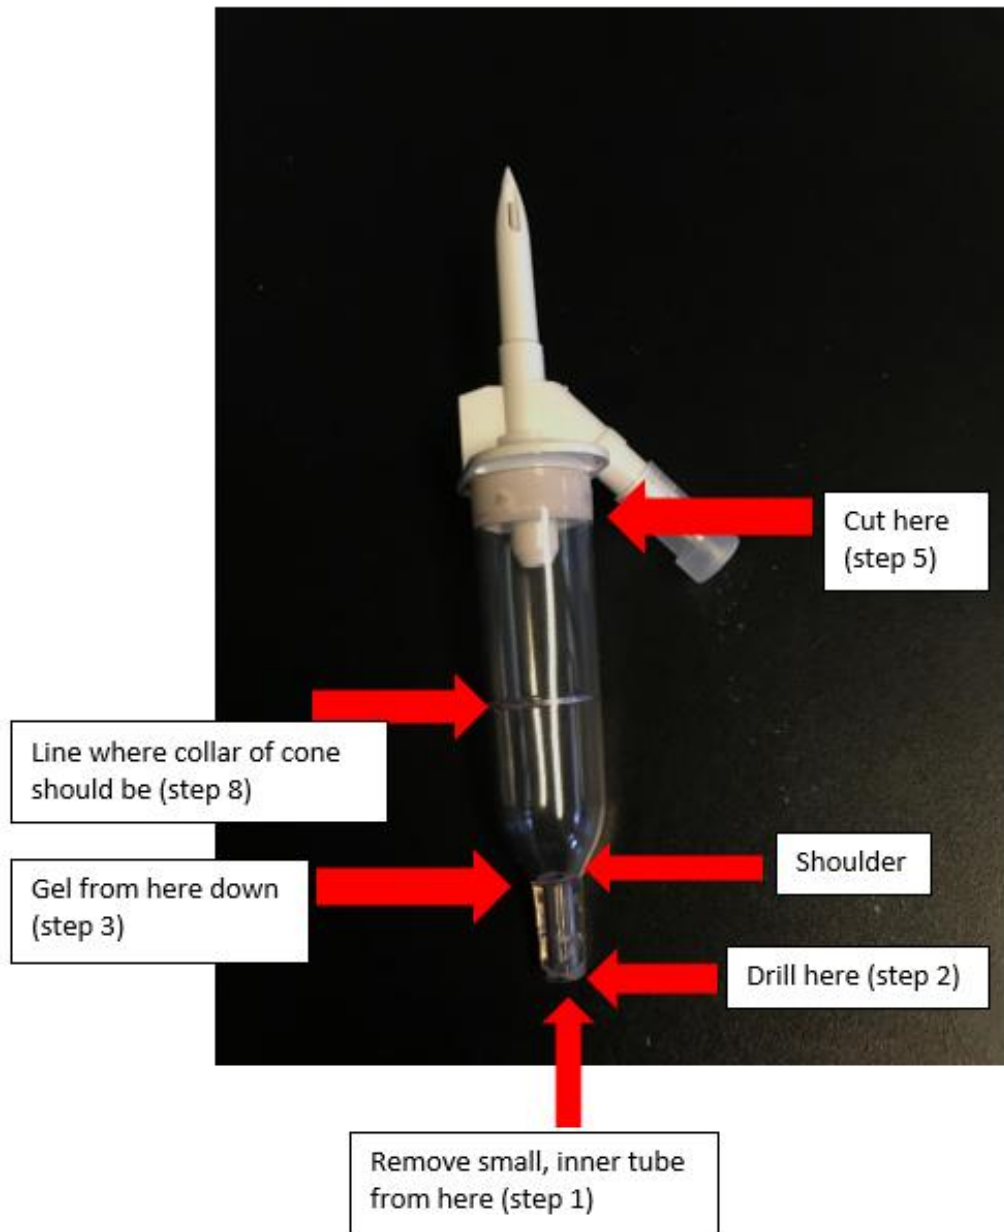

Figure 1: Venoset displaying modifications that need to be made
- 1) Pull out the small tube at the opening of the venoset using pliers (Figure 1).
- 2) Enlarge the opening of the venoset using a 3/16" drill bit and remove any plastic pieces still inside (Figure 1).
- 3) Apply silicone gel to the outside of the venoset opening, coating the entire bottom portion to the shoulder (Figure 1).
- 5) Cut off the hard-plastic parts of the venoset using razor blade (Figure 1).
- 6) Trim the tubing so it is long but not touching the stand when attached to the cone (Figure 1).
- 8) Slide a clamp onto venoset and over the collar of the cone. The collar of the cone should sit on the line on the venoset with the clamp sitting just above the collar (Figures 1 and 3).